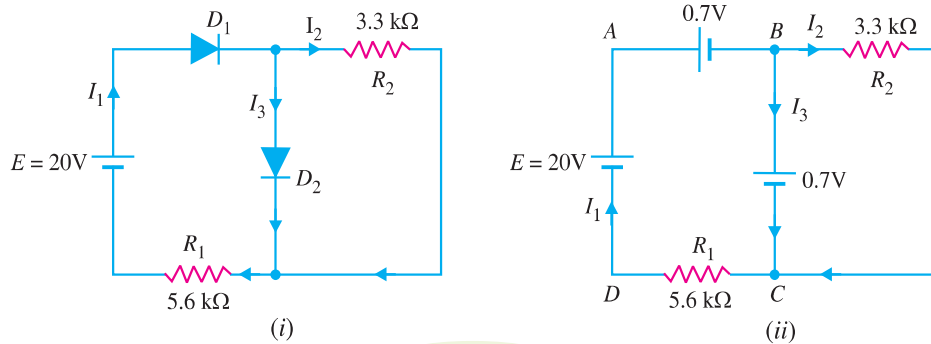

Fig. 6.16
**Example 6.9.** Determine the currents  $I_1$ ,  $I_2$  and  $I_3$  for the network shown in Fig. 6.16(i). Use simplified model for the diodes.
**Solution.** An inspection of the circuit shown in Fig. 6.16 (i) shows that both diodes  $D_1$  and  $D_2$  are forward biased. Using simplified model for the diodes, the circuit shown in Fig. 6.16 (i) becomes the one shown in Fig. 6.16 (ii). The voltage across  $R_2$  ( $= 3.3 \text{ k}\Omega$ ) is 0.7V.
Applying Kirchhoff's voltage law to loop ABCDA in Fig. 6.16 (ii), we have,